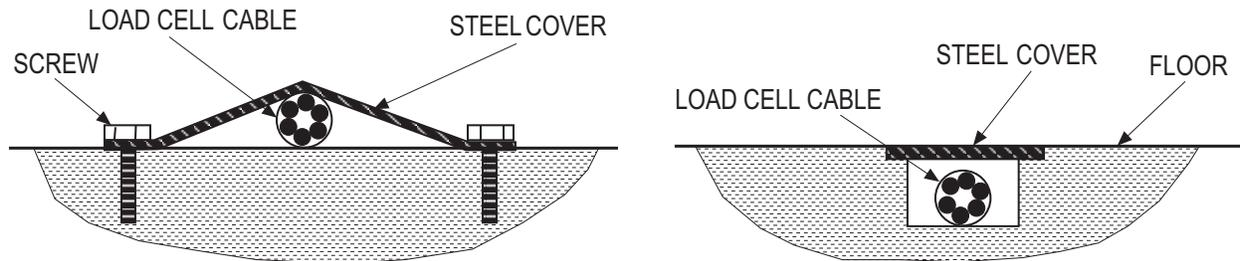

Figure 2-5. Cable Routing
20 feet of 6-wire cable to connect the scale to the weight indicator is supplied with each scale. The cable must be routed to the indicator in a manner that will protect the cable from damage. Two methods of cable protection in non-washdown applications are shown in Figure 2-5 on page 11. When planning cable routing with either of these two methods, leave a loose coil of excess cable under the scale to facilitate future lifting of the scale for servicing or cleaning on the indicator terminal using the same procedure as inserting load cell cables to the appropriate connectors.
8. Pull excess cable out of the enclosure and tighten the cord grip assemblies with a wrench. To be watertight, each cord grip must be tightened so the rubber sleeve begins to protrude from the hub (see Figure 2-5 on page 11).